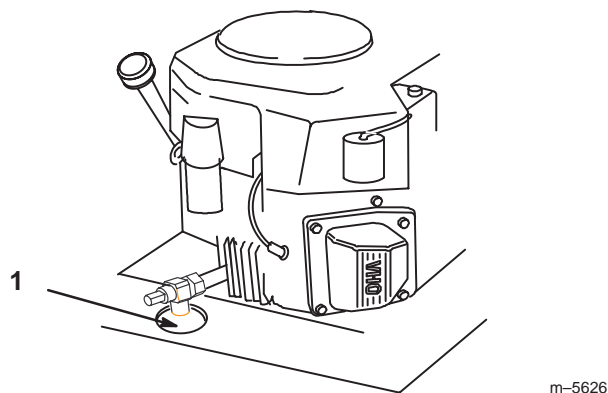

Figure 36
3. Place a pan below the oil drain. Remove the oil drain cap (Fig. 36).